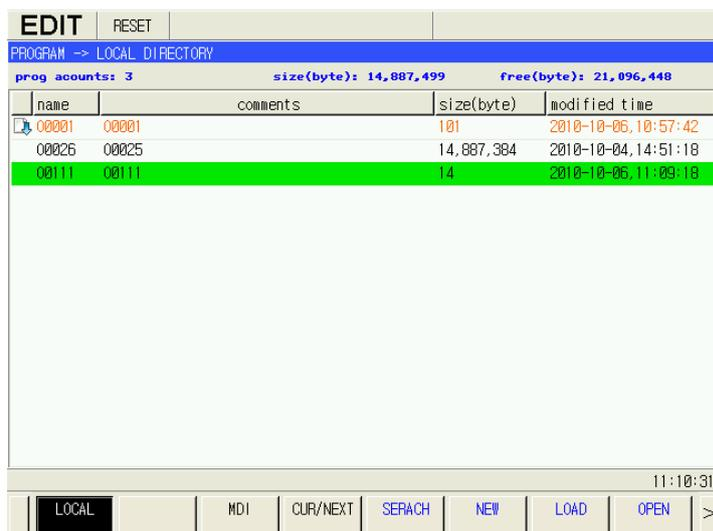

Fig.4-3
(1) In Edit mode, press  to enter PROGRAM window.
(2) In program window, press , , ,  to move the cursor to select the program name. Or press  to search the program name which requires to run. The selected line is displayed against a green backdrop shown in Fig.4-3:
(1) Press **PROGRAM** and then press **LOCAL** to access the program windows, which is shown in Fig.4-3:
(2) In the program windows, press [list icon], [document icon], [up arrow icon] or [down arrow icon] to select the program to be
opened; or press **SEARCH** to search, and input the program name to be opened, and then press **OK** to search, and the cursor positions in the program name, the background of the selected program name changes into green-based color, such as O0001 shown in Fig.4-3: